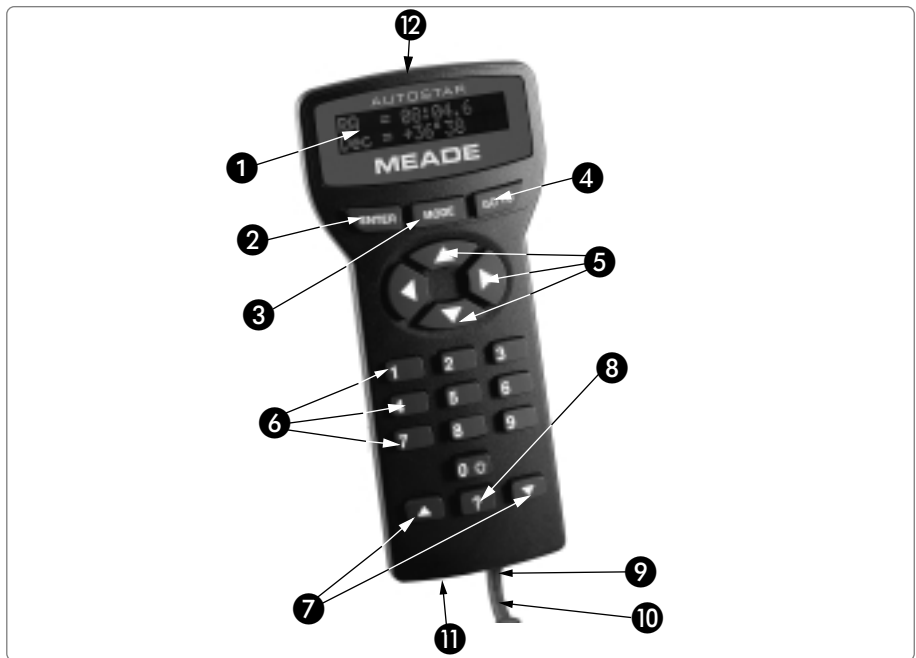

Fig. 2: The Autostar Handbox.
- A. **Handbox (HBX) Port**: Plug the Autostar or EC handbox coil cord (10, Fig. 2) into this port.
- 26 **Latitude Adjustment (2)**: Sets the latitude of your observing location. The two T-handle screws work in a "push - pull" operation—as you tighten one, loosen the other. The T-handle above the star marking on top of one of the tripod legs is the North T-handle screw (South in the Southern Hemisphere). The leg marked with a star must be pointed North (South in the Southern hemisphere) during the polar alignment procedure.
Note: If **MODE** is pressed and held for two seconds or more, information about the telescope's status displays. When the status displays, press the **Scroll** keys (7, Fig. 2) to display the following information and more: